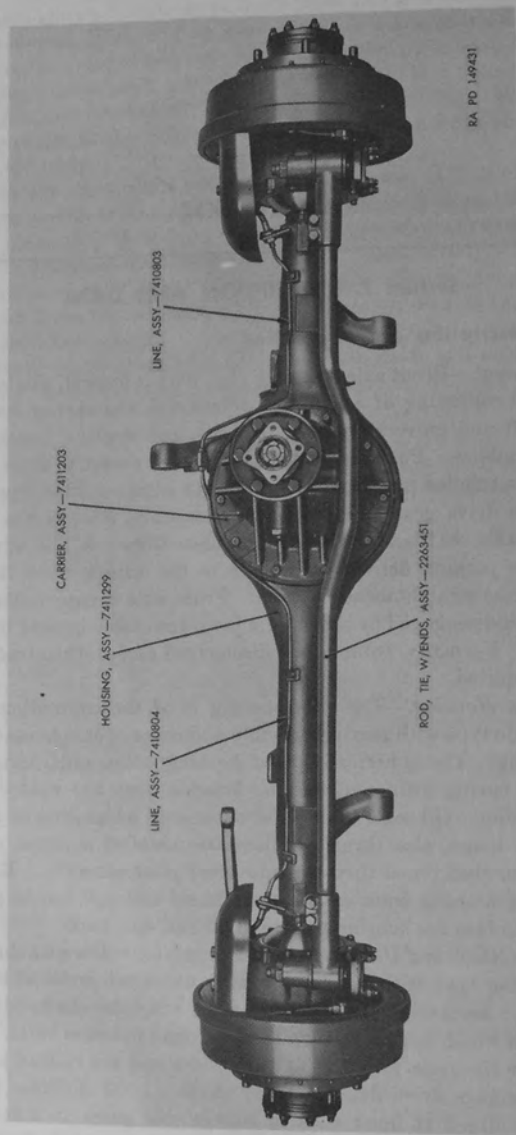

Figure 105. General view of front axle assembly.
a. General.—Front axle assembly (fig. 105) is hypoid, single-reduction type consisting of a housing, differential and carrier assembly, axle shaft and universal joint assemblies, and steering knuckle support assemblies. Power is transmitted from transfer to drive pinion through a tubular propeller shaft. Power is transmitted from drive pinion to drive gear and differential assembly, then to the wheels through axle shaft and universal joint assemblies. Action of universal joints permits delivery of power to the wheels when they are turned from straightahead position. Front axle is automatically engaged and disengaged by action of a jaw-type clutch located in transfer unit. Normally, front axle is disengaged except when tractive effort is required.